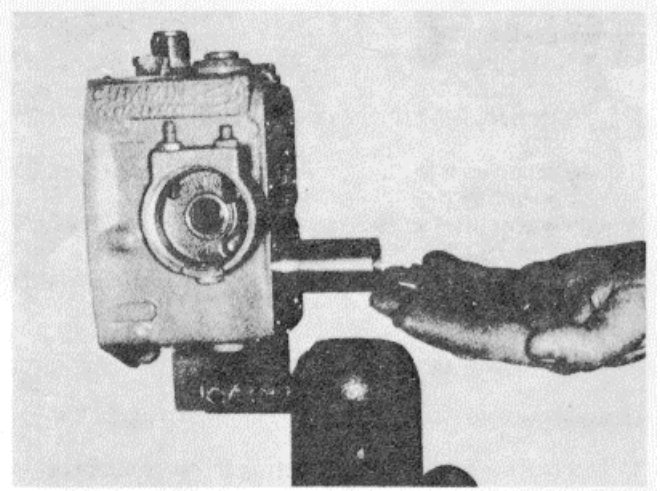

Figure 16G-54. Removing Standard Spring Pack Assembly
3. Remove idle spring plunger guide, idle spring or springs, idle spring plunger and spring washer, Figure 16G-54.